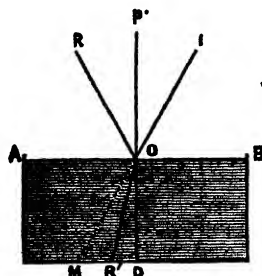

FIG. 11.
**REFRACTION.**—If a ray of light,  $IO$ , Fig. 11, fall obliquely on the surface of a dense medium, such as a plate of glass,  $AB$ , a portion of the ray is reflected in  $OR$ , and a portion transmitted. The transmitted portion, instead of going straight on in the direction  $OM$ , is bent towards the perpendicular to the surface in the direction  $OR'$ . This change in the path of the ray is termed *refraction*. It occurs when light passes from a rarer to a denser medium. In